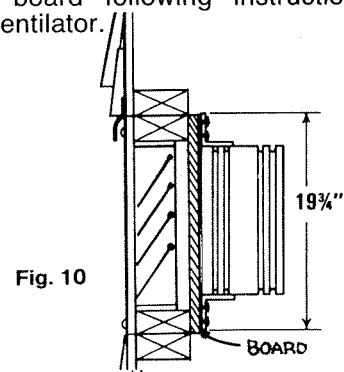

Fig. 10
11. Mount the board to the frame (Fig. 10.)
12. Mount and install the Gable Mount Powered Attic Ventilator to this board following instructions provided with the ventilator. (See Fig. 10)